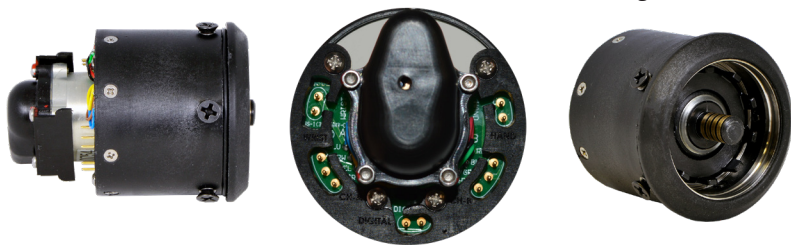

Figure 1
The Motion Control (MC) Motor Direct Electric Wrist Rotator (Figure 1) provides powered pronation and supination at twice the torque and twice the speed of previous electric wrist rotators, with less noise. The Motor Direct version of the MC Electric Wrist Rotator **does not** contain a microprocessor, therefore a controller must be “upstream”. It is used with the Utah Arm, the E2 Elbow when using pattern recognition such as a Coapt system, as well as some other manufacturer’s powered elbows. The MC Motor Direct Wrist Rotator utilizes an industry-standard quick disconnect and coaxial plug, and therefore is compatible with most manufacturer’s terminal devices.